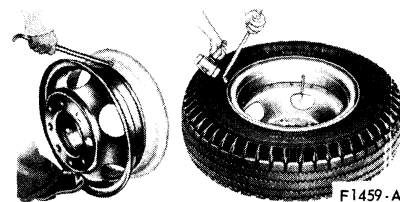

FIG. 2 Removing Ring and Loosening Tire Bead—Two-Piece Rim
To remove the rim ring (Fig. 1) from a rim without a tire, stand the wheel up so that the tool slot of the ring is at the top, and the lower portion of the ring is in the rim well. Insert the rim tool between the rim slot and the gutter of the rim, lift the ring over the gutter, and pry the ring off the rim (Fig. 2).
1. Place the wheel (ring side up) on the floor. Insert the hook end of the rim tool between the ring flange and the tire bead, and continuing around the ring, pry the tire off the tapered seat of the ring (Fig. 2).